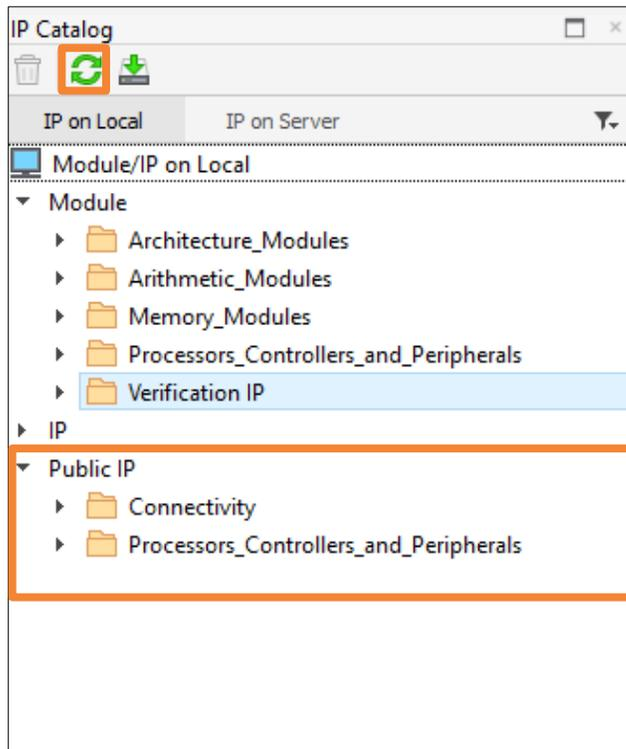

Figure 2.133. IP Catalog
- Set the IP Public Path, and then refresh **IP catalog** to get IP from this path (Figure 2.133).